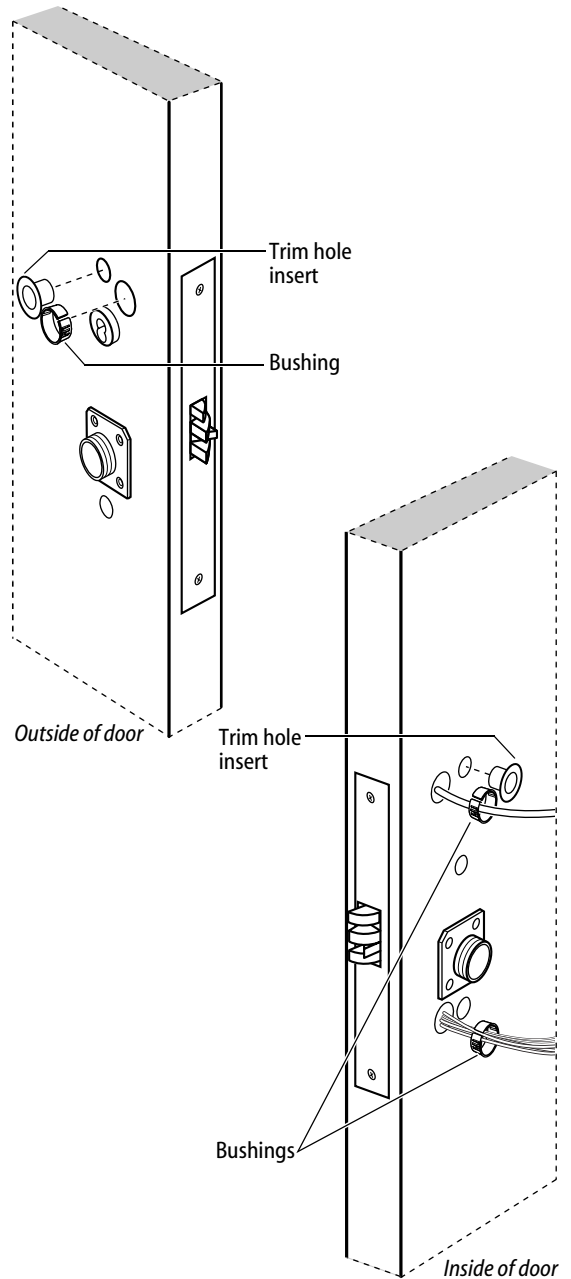

Figure 12 Installing the trim hole inserts and bushings
- 1 Insert the two trim hole inserts into the upper trim hole on each side of the door, as shown in Figure 12.
- 2 Insert two bushings into the field harness & reader wire hole on each side of the door, as shown in Figure 12.
- 3 Insert a bushing into the sensor & solenoid wire hole on the inside of the door, as shown in Figure 12.